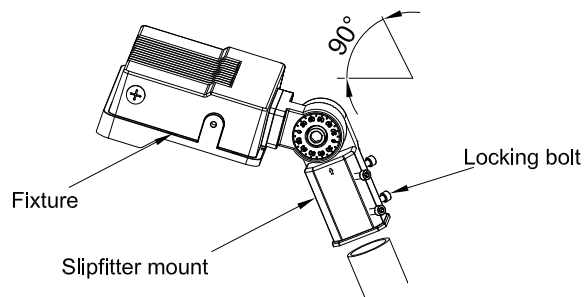

Fig. 5
1. Place the Slipfitter over the Tenon and secure the Fixture with the Screws on the side of the Slipfitter as shown in Fig. 5.